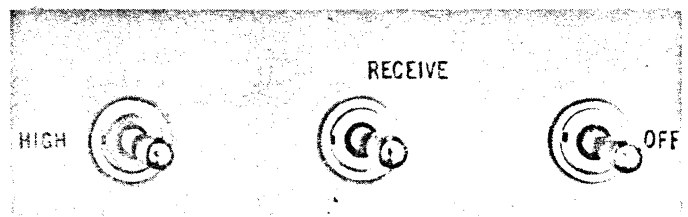

Figure 4. View showing three toggle switches
3. Set the three toggle switches to the "right" hand position. (See Fig. 4)